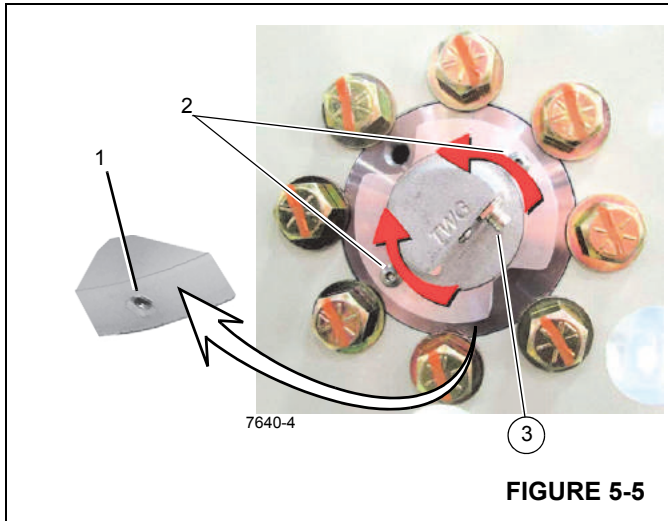

FIGURE 5-5
7. Loosen the set screw (1, Figure 5-5) on the side of the DRI flange.
8. Using the spanner wrench holes (2, Figure 5-5) rotate the DRI so that the connector (3) is pointed down.
9. Tighten the set screw (1, Figure 5-5) after the DRI is positioned as desired.